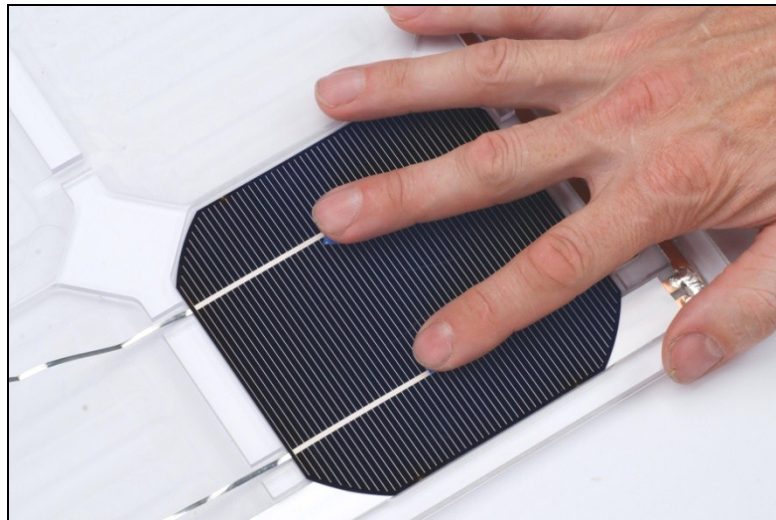

Figure 22
- ✓ Temporarily place one of the 10" long tabbed cells into cavity #4, and gently push down with two fingers, as shown in Figure 22.